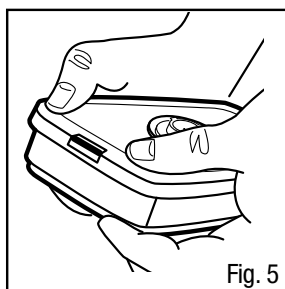

Fig. 5
1. Align adapter over cartridge. Engage front snap by squeezing front of cartridge and adapter together, placing thumbs of both hands over top of adapter and fingers along bottom sides of cartridge (Fig. 5).